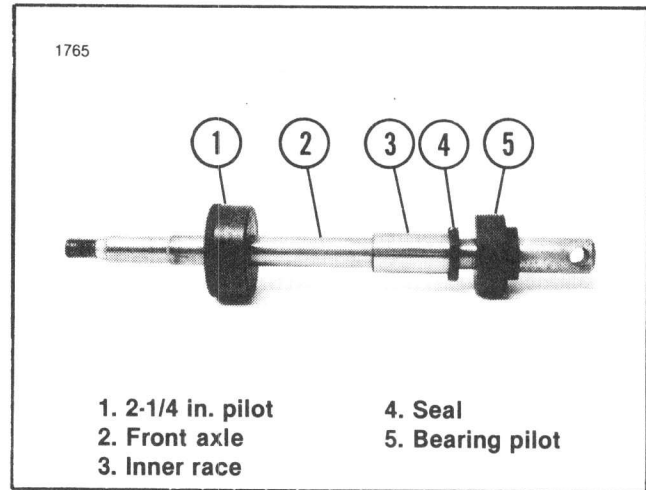

Figure 3-7. Wheel Seal Installation
5. See Figure 3-7. Place the bearing pilot (5) on the axle with the axle head recessed inside the bearing pilot. Place the seal (4) over the axle with the numbered side facing the flat side of the bearing pilot. Place the inner race (3) on the axle and inside the seal. Insert the axle through the valve stem side of the wheel and through the 2-1/4 in. dia. pilot (1).